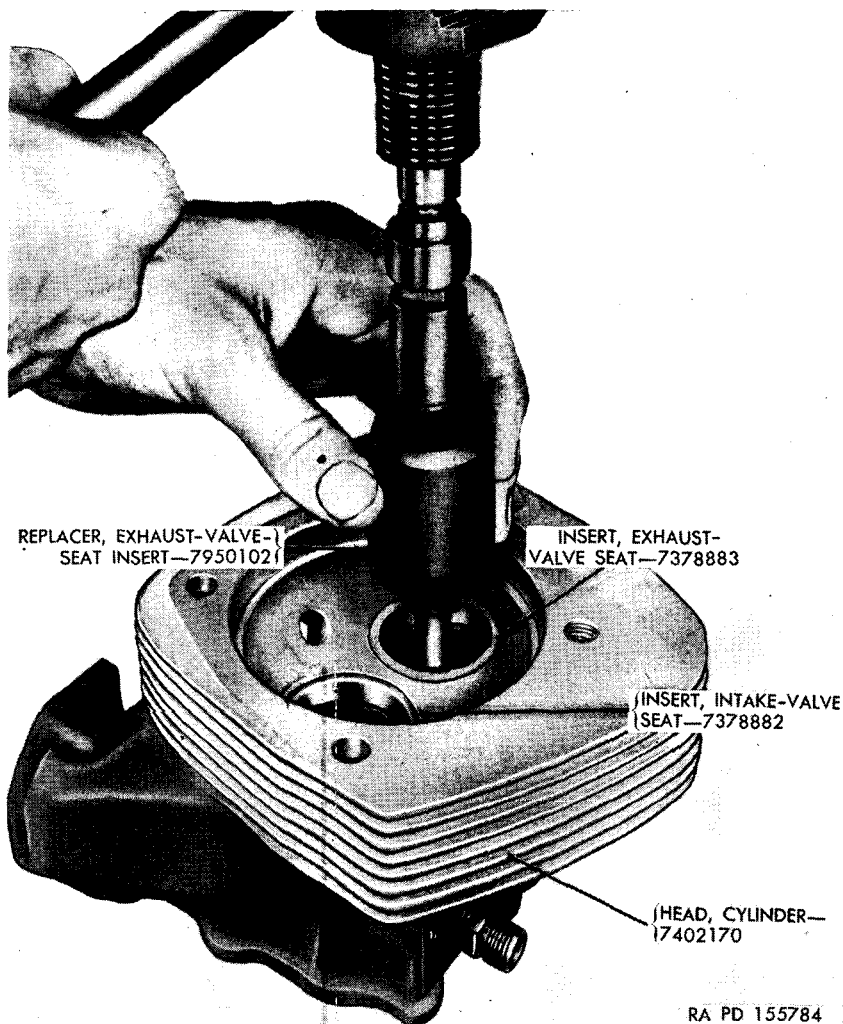

Figure 74. Installing valve-seat insert.
- (2) Remove the intake-valve-seat insert in the same manner.
- (3) With cylinder head resting bottom side up on work bench, locate exhaust-valve-seat insert true in counterbore of head. Drive insert into place using exhaust-valve-seat insert replacer 7950102 (fig. 74). Cylinder head may be immersed for 30 minutes in water heated to a temperature of 180° to 200° F. and valve-seat inserts cooled in dry ice to facilitate assembly.
- (4) Install intake-valve-seat insert in the same manner using intake-valve-seat insert replacer 7950101.